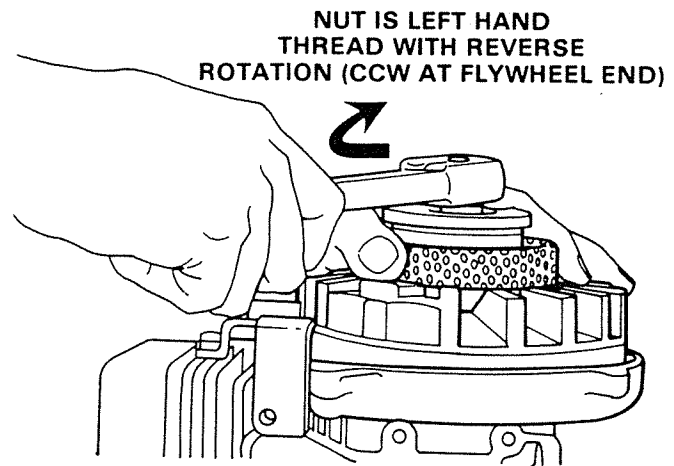

Figure 4. Removing Flywheel Nut.
2. Remove flywheel nut, lockwasher, starter cup and sceen. Figure 4.